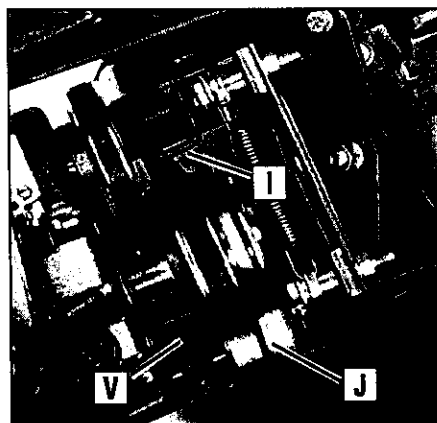
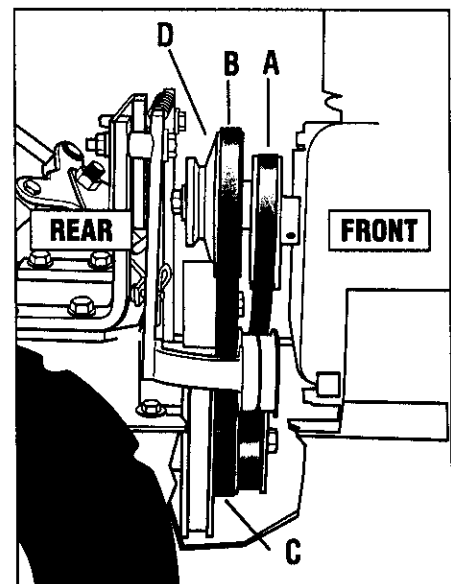
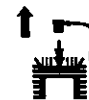
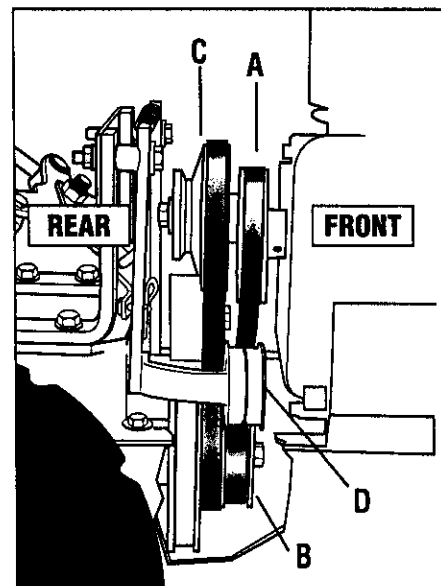

Figure 4-13: Top view of belts and pulleys.
Figure 4-17: Belt drive system.
Figure 4-18: Install forward drive belt over rear of engine forward pulley and bring lower half of belt down and in front of transmission pulley.
Figure 4-19: Removing and installing reverse belt.
8. Replace the forward drive belt in the High speed groove of the engine drive pulley (the groove closest to the engine) and in the middle groove in the transmission pulley. Be sure the belt is to the inside of the wire formed belt guide (I, Figure 4-13) and to the inside of the forward drive idler pulley (J).
10. Readjust the forward drive belt tension by following the instructions in item 5 of "Step 3: Attach Forward Clutch Rod" on Page 9.
2. Remove the reverse drive belt completely (A, Figure 4-17) by following the "Removing the Reverse Drive Belt" instructions in this section.
3. Move the forward drive belt (B, Figure 4-17) completely off the engine forward drive pulley (D).
4. Slip the forward drive belt completely off the transmission drive pulley (C, Figure 4-17) by moving it to the front of the pulley.
2. Slip the forward drive belt down between the rear of the engine forward drive pulley (D, Figure 4-17) and feed the bottom half in between the engine and transmission pulleys (see Figure 4-18). Be sure that the belt is to the inside of the forward idler pulley and forward belt guide (see J and I, Figure 4-13).
3. Slip the forward drive belt down and over the front of the transmission pulley (C, Figure 4-17).
**NOTE:** For additional working room, loosen the reverse belt guide (V, Figure 4-13) and twist it out of the way.
4. Put the lower half of the belt into the middle groove of the transmission pulley (C, Figure 4-17).
5. Put the upper half of the belt on the engine forward drive pulley in the groove closest to the engine (B, Figure 4-17).
**IMPORTANT:** Make sure that the forward drive belt is to the inside of the wire belt guide (I, Figure 4-13) and the forward idler pulley (J, Figure 4-13).
3. Slip the reverse belt off the engine reverse pulley (A, Figure 4-19). If necessary, work the belt off the pulley with your left hand while pulling the engine recoil starter rope with your right hand.
4. Push the upper half of the reverse belt downward to create slack in the belt. Then reach underneath the transmission and slip the belt off the front of the transmission pulley (B, Figure 4-19).
5. Pull the belt up and past the engine reverse pulley (A, Figure 4-19).
1. Slip the reverse belt down between the engine reverse pulley (A, Figure 4-19) and the engine forward drive pulley (C).
2. Loop the bottom half of the belt over the front of the transmission pulley (B, Figure 4-19) and seat the belt in the front groove of the pulley.
3. Place the belt to the inside of the reverse idler pulley (D, Figure 4-19) and the reverse belt guide (V, Figure 4-13). Then slip the upper end into the groove of the engine reverse pulley (A, Figure 4-19).
4. If the reverse belt guide (V, Figure 4-13) was loosened previously, center the belt guide on the belt and tighten the mounting screw securely.